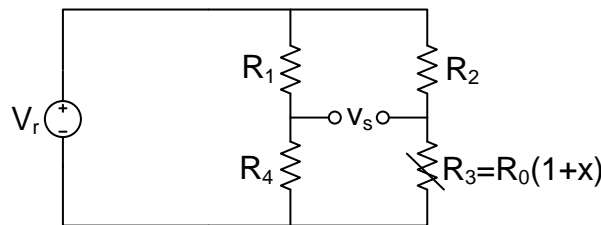
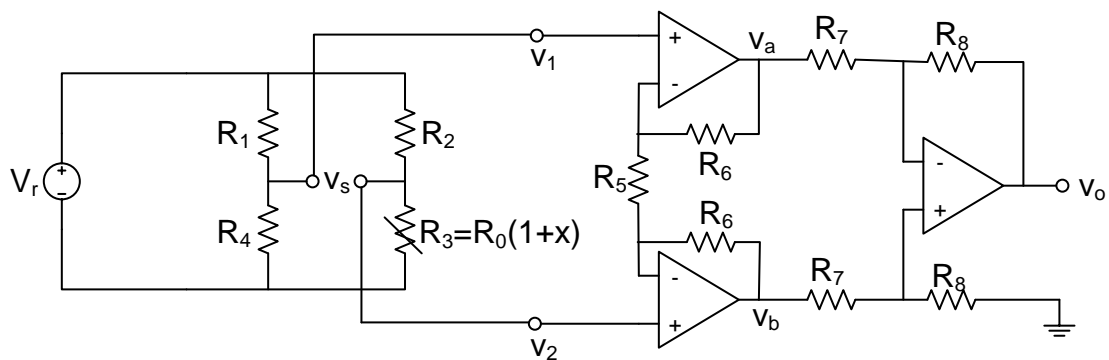

Figure 2: Bridge circuit with one strain gauge.
Figure 3: Sensor circuit with processing circuit.
The strain gauge and the three fixed resistors are connected in a bridge circuit with a voltage supply V_r . The electrical equivalent circuit of this sensor is shown in Figure 2.
(5p) (a) Show that the output output voltage v_s of the sensor circuit shown in Figure 2 is equal:
(5p) (c) Show that the output voltage v_s of the sensor circuit shown in Figure 2 is equal to 2.5 mV when a pressure of $100 \cdot 10^6 \text{ N/m}^2$ is applied to the metal strip and $V_r = 10 \text{ V}$.
(5p) (d) The sensor circuit from Figure 2 is connected to an instrumentation amplifier (see Figure 3). Show that the output voltage v_o of the circuit shown in Figure 3 is equal to:
- (5p) (e) Assume that $V_r = 10$ V, $R_6 = R_7 = R_8 = 100k\Omega$. What value should the resistor R_5 have to ensure that the output voltage v_o of the circuit shown in Figure 3 is equal to 2.5 V when a pressure of $200 \cdot 10^6$ N/m² is applied to the metal strip.